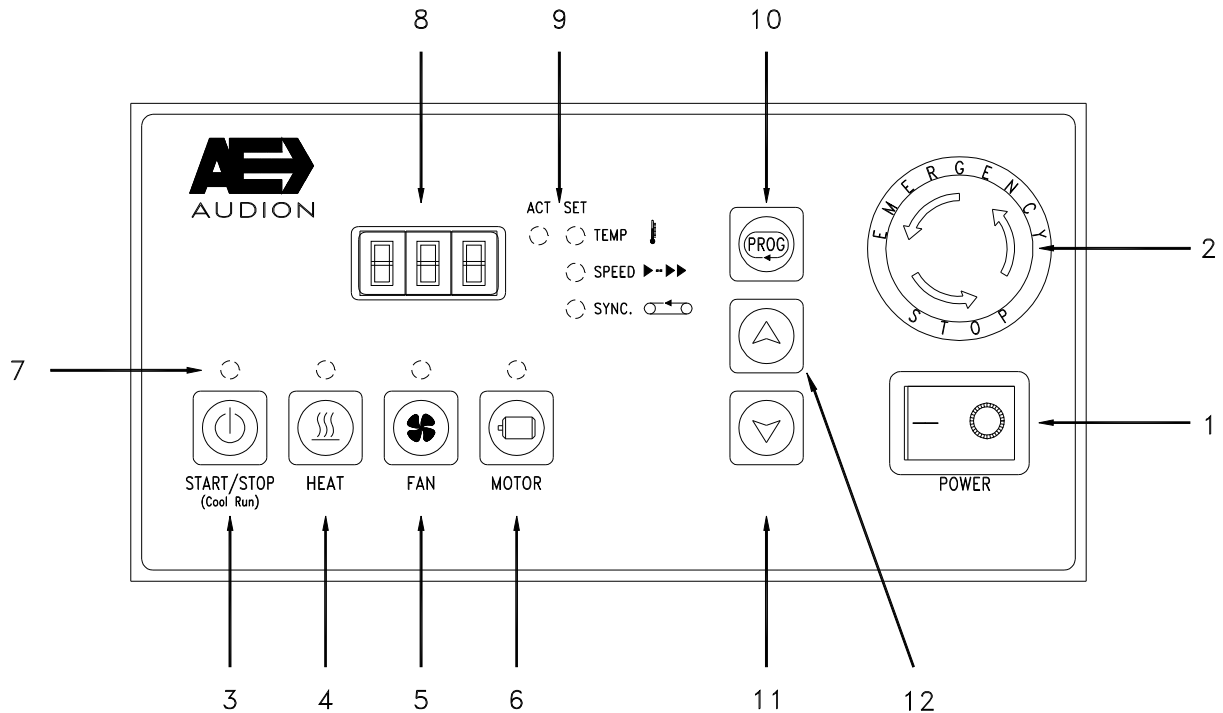

Fig. 2
Before connecting the ALL-IN-SEALER, be sure that the power is off, the main switch (fig. 2 pos 1) must be at position O (OFF).